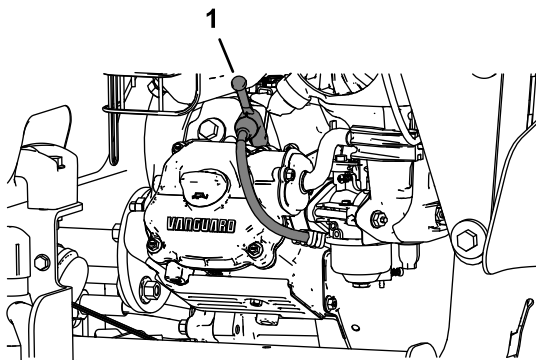

Figure 66
6. Disconnect the spark-plug wire (Figure 66).